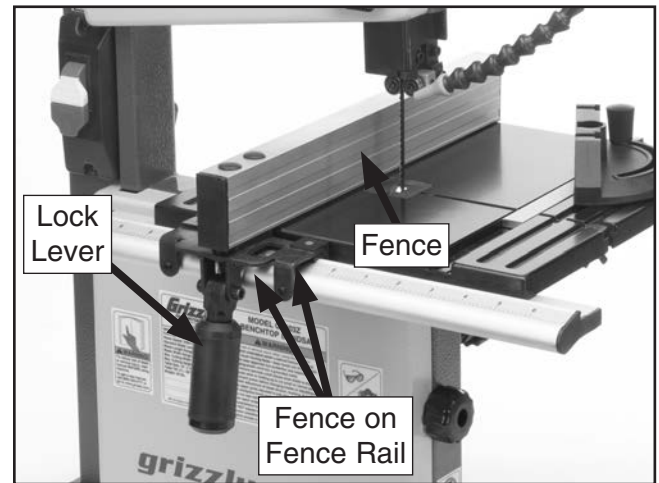

Figure 16. Fence installed on fence rail.
11. Install fence on fence rail as shown in **Figure 16**.
Note: Fence lock lever (see **Figure 16**) needs to be in up position when fitting fence onto fence rail. Once fence snaps onto fence rail, push lock lever down to secure fence in position.